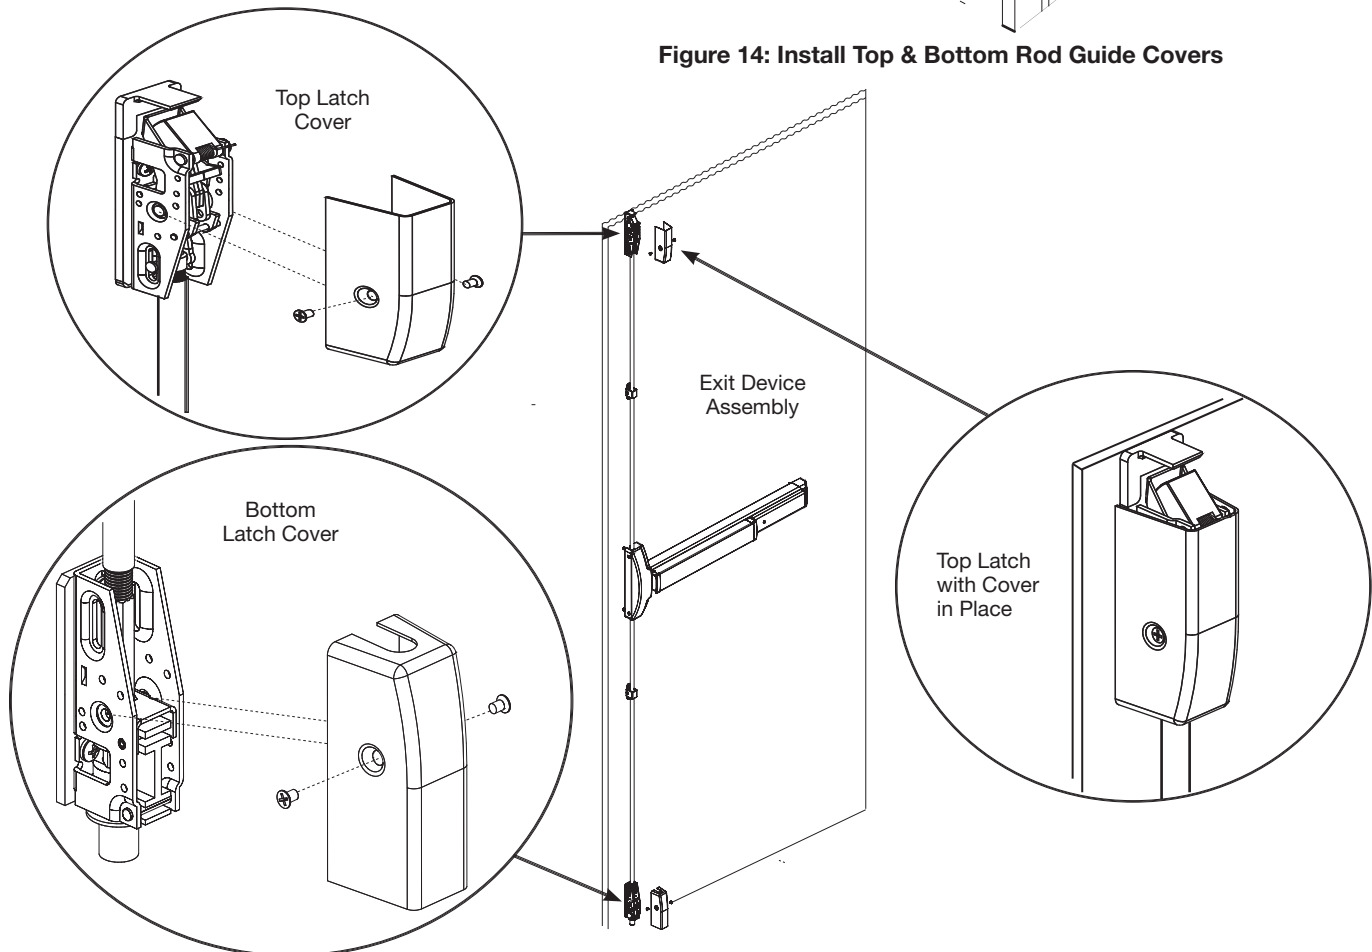

Figure 15: Install Latch Covers
1. Install top and bottom latch covers as shown with four (4) #8x32 x 1/4" (6.4mm) PFHMS. See Figure 15.